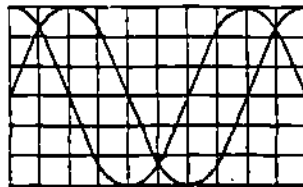

Figure 1-2
12. Adjust the CH1 and CH2 VOLTS/CM and VARIABLE controls until the two signals are 6 cm in amplitude and appear somewhat like figure 1-2.